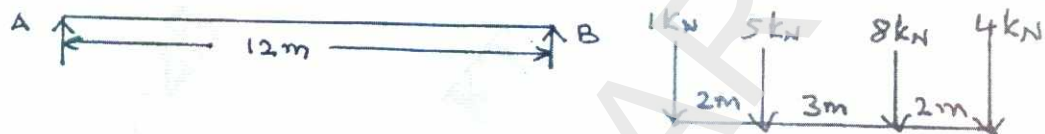

Fig. Q1 (b)
- b. Determine the absolute maximum moment for the given beam loaded with moving loads as shown in Fig. Q1 (b). (08 Marks)